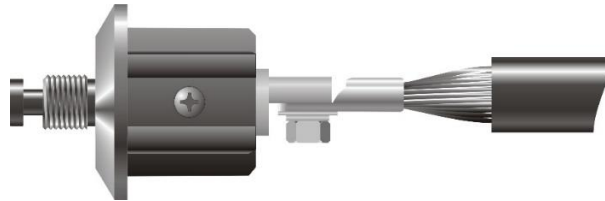

Figure 5.
6. Connect the crimp lug to the Stormmaster/Guardian CAT mast base assembly using the bolt and washers as supplied with the assembly. Ensure the connection is aligned correctly and tightly secured using a 14 mm spanner, socket or shifting spanner. Note orientation of lug on lower finial connector. (Fig 5)